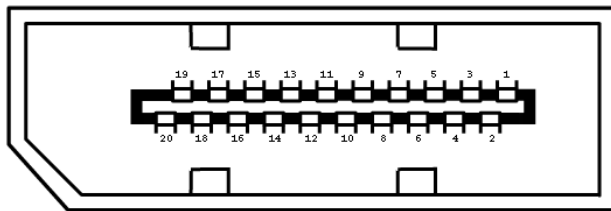

Figure 3-35: DP++ Connector
- CN Location:** See **Figure 3-34** and **Figure 3-35**